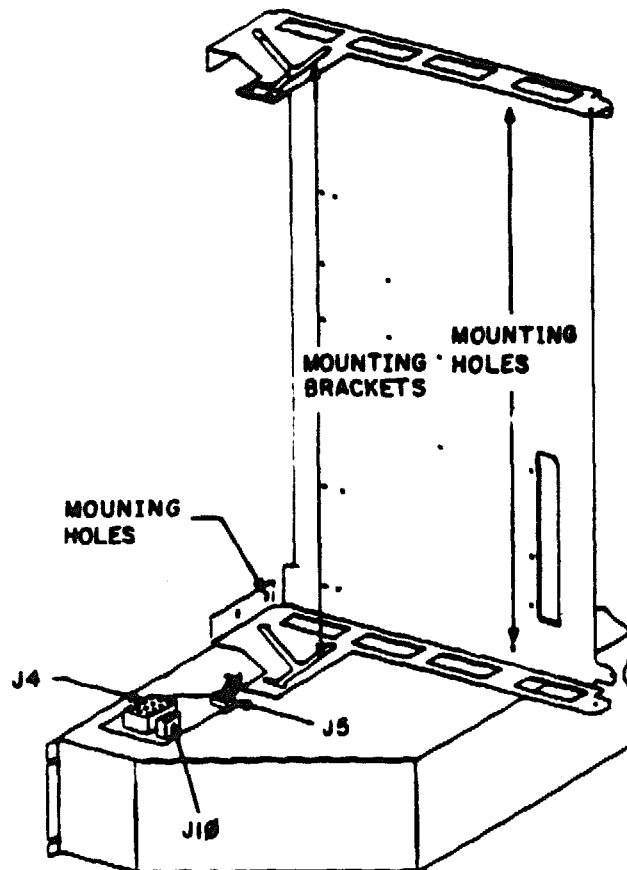

Figure 5-12. LOGIC CAGE
3. To gain access to the screws holding the air bearing, remove the screws holding the logic cage and move the cage enough to access the air bearing mounting screws. See Figure 5-12. DO NOT remove the tie-wraps holding the cables to the cage.
6. Replace the screws the holding logic cage. See Figure 5-12.